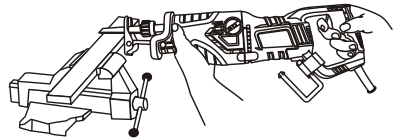

Fig. 5
5. Hold the saw away from your body and in front of you (Fig. 5).